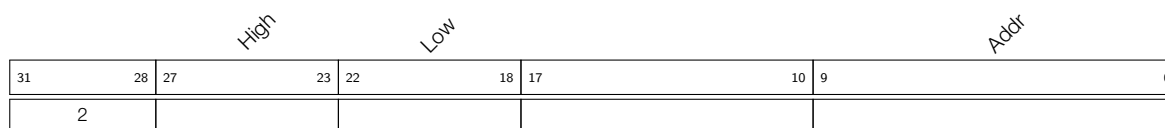

Figure 28-23. Instruction Type - REG\_RD
**Operand**    **Description** - see Figure 28-23